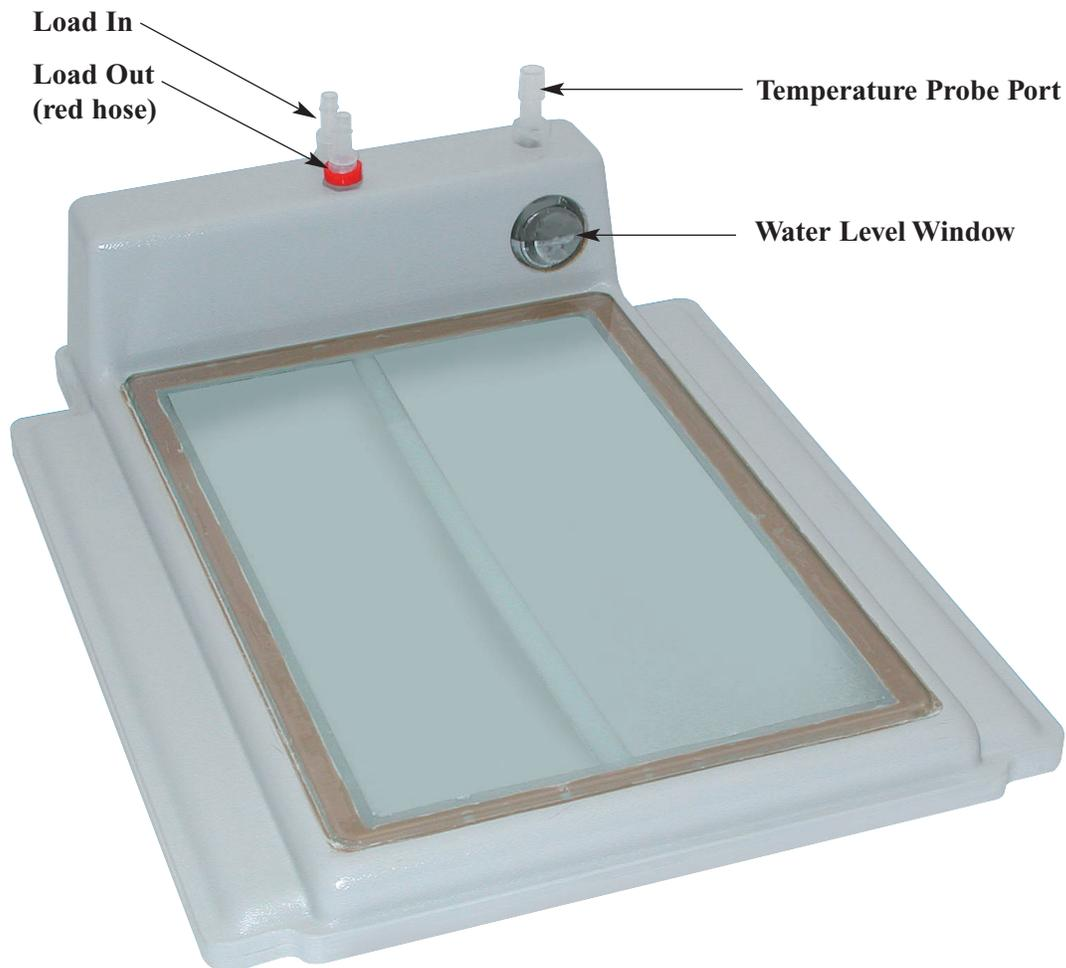

Figure 8 PELCO ColdSpot® with the load ports configured as used with Load Cooler
1. With the PELCO ColdSpot® outside the microwave fill with water until the water level is at the halfway point on the Water Level Window (Figure 8) on the right-rear of the unit. When the unit is filled outside the microwave any spills can be easily dried off prior to placement in the microwave. The halfway point is determined when the unit is sitting flat on a counter. **NOTE:** Remove as many bubbles as possible under the glass plate by lifting the rear of the PELCO ColdSpot® and tapping the front gently on the counter.
4. Turn off the load cooler and slide the PELCO ColdSpot® into the microwave cavity so that the beaker can be repositioned on the glass surface of the PELCO ColdSpot® with the water hoses still in the beaker. Attach the hose bringing water into the beaker to the “Load-In” fitting shown on Figure 8. Attach the red hose to the “Load-Out” fitting shown in Figure 8.